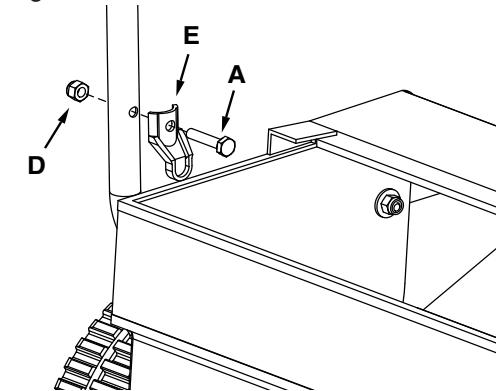

Figure 4
STEP 4: (SEE FIGURE 4)
- Assemble a bag rod clip (E) to the inside of each lower handle tube using a 1/4" x 1-1/4" hex bolt (A) and a 1/4" nylock nut (D).